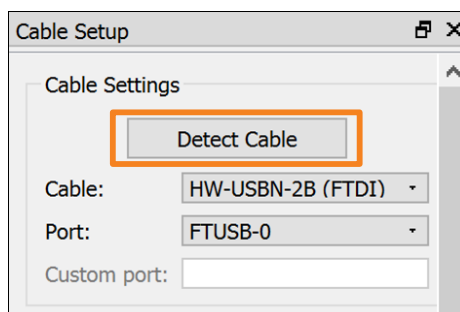

Figure 9.2. Port Selection
- If the device is not detected on Port: **FTUSB-0**, click **Detect Cable** and select Port: **FTUSB-1** (Figure 9.2).